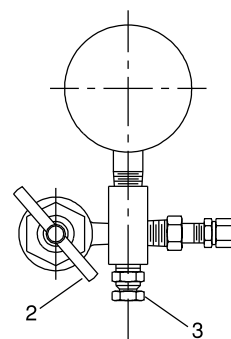

Figure 4
- (A) Remove protective cover (A) and the secondary seal (B) from the Diaphragm accumulator. Check torque on the gas valve to be 9 ft-lbs (10.3 cm kg).
- (B) Refer to Figure 4. Back gas chuck “T” handle (2) all the way out (counter clockwise), attach charging and gauging head assembly by screwing the air chuck (2) to the valve stem of the Diaphragm accumulator and tighten (10-15 in lbs) (11.5-17 cm kg).
- (C) Close bleed valve (3).
- (D) Turn “T” handle (2) in clockwise motion.
- (E) When finished checking the precharge, turn “T” handle (2) counterclockwise all the way, then open bleed valve (3).
- (F) Using a wrench to prevent the gas valve assembly from rotating, remove the charging assembly from the accumulator.
- (G) Replace secondary seal (B) and protective cap (A).
For accumulators having gas valve as shown in Figure 6, attach gauging assembly as shown in Figure 4 following Steps A through D. Then, open bleed valve (3) until all gas pre-charge is relieved from accumulator. Then remove gauging assembly. The accumulator is now safe to remove from the system.